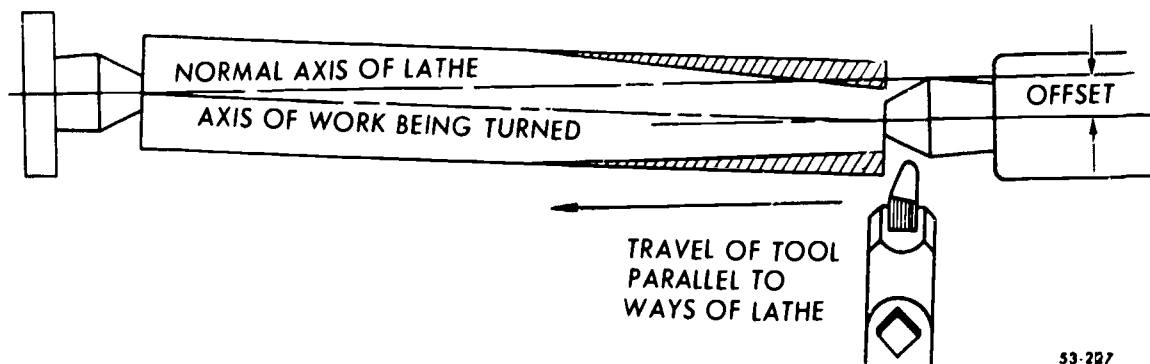

Figure 5-22. Effects of tailstock offset.
**Taper Turning by Offsetting the Tailstock.** You will use the *offset tailstock method* frequently to turn long slow tapers because of the limitations of the compound rest method. Also you will find that every lathe is not equipped with a taper attachment. When you offset the dead center by moving the tailstock out of alignment, the centerline of the work and the line of travel of the turning tool are no longer parallel. A taper will be turned on the work, as shown in figure 5-22. Offset the tailstock, after it has been unclamped, by turning the tailstock lateral adjustment screws. Position the cutting tool at center height in order to turn a true taper.
**Calculating offset.** You can calculate the offset when you have either (1) the taper per inch and the length, or (2) the included angle and the length: